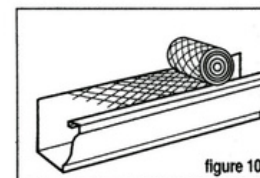

figure 10
Gutter Guards (14) fit neatly into place over the open top of the gutter (figure 10) to help prevent leaves from blocking or clogging gutters.